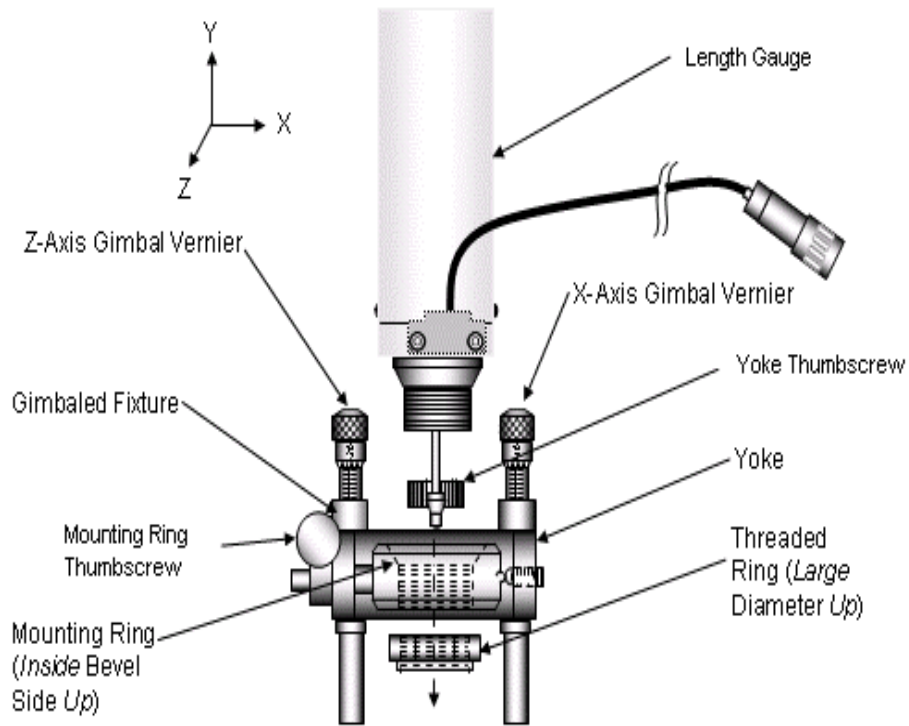

Figure 2. Gimballed fixture and length gauge.
e. Loosen mounting ring thumbscrew (fig. 2). Adjust mounting ring until the length gauge shaft is in direct vertical alignment with the TI shaft. Tighten mounting ring thumbscrew.
f. Loosen yoke thumbscrew and adjust YOKE (fig. 2) so that the length gauge shaft is in direct vertical alignment with the TI shaft. Tighten yoke thumbscrew.
h. Adjust X-AXIS GIMBLE VERNIER (fig 2) to highest value reading on length gauge indicator. Repeat for Z-AXIS GIMBLE VERNIER (fig 2). Repeat as necessary for best possible setting.